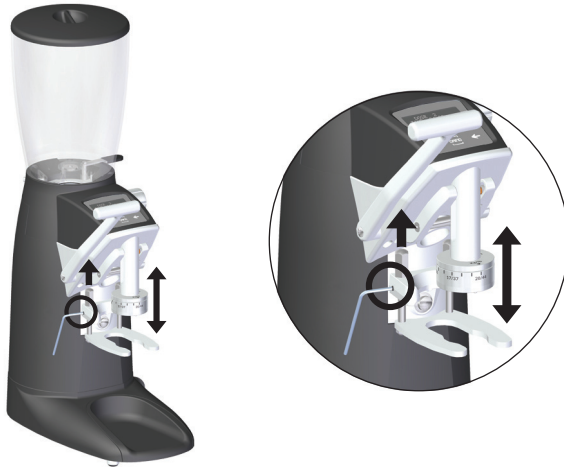

Fig. 2
1. Remove screw caps (*Fig. 2*) using a flat headed screw driver.
3. Replace and tighten the screw caps (*Fig. 2*).